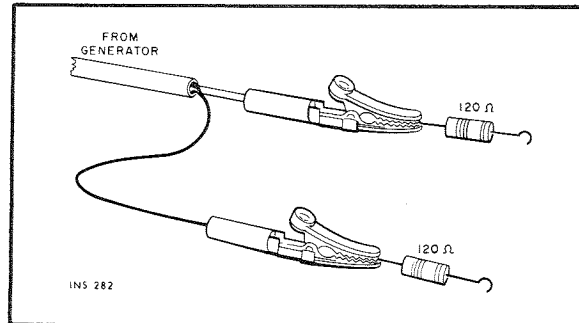

Figure 5. Connections To Provide 300-ohm Generator Output Impedance. Matching Resistors Reduce Generator Voltage By Half At Antenna Terminals.
- (1) Set TUNING dial pointer to zero (0) calibration mark on the logging scale. If the dial pointer is not centered on the 0 at the extreme end of the knob rotation, reposition the pointer assembly on the dial cord and cement the pointer in place to prevent slippage. Allow cement to thoroughly dry.
- (2) Connect an FM generator to the FM ANTenna terminals. Use a 120-ohm composition resistor in series with each lead from the generator (see Figure 5).
- (3) Connect a scope and an AC VTVM to either Left or Right RCDR OUT jack.
- (4) Set FM generator frequency and TUNING dial pointer to 90 MHz. Modulate generator with 400 Hz,  $\pm 75$  kHz deviation. Set generator level as low as possible.
- (5) Align (oscillator coil) L504 first, then (mixer coil) L503 and (RF L502 for maximum reading on AC VTVM and tuning meter, and maximum waveform amplitude and symmetry.
- (6) Set generator frequency and TUNING dial pointer to 106 MHz.
- (7) Align (oscillator trimmer) C512 first, then (mixer trimmer) C511 and (RF trimmer) C503 for maximum reading on AC VTVM and tuning meter, and maximum waveform amplitude and symmetry.
- (8) Repeat alignment several times until accurate dial calibration and maximum gain are obtained. Keep the generator output as low as possible during all adjustments.
(1) Connect an FM generator to the FM ANTenna terminals. Use a 120-ohm composition resistor in series with each lead from the generator (see Figure 5).
(2) Set generator frequency to same frequency as receiver. Set generator RF output level to full output (approximately 100,000  $\mu$ V) with audio modulation off.
(3) Adjust generator frequency for peak tuning meter reading.
(4) Adjust FM METER ADJ. pot. R328 (on AM/FM IF, MPX board) for tuning meter reading of 4.5.
(1) Connect RF output of multiplex generator to the FM ANTenna terminals. Use a 120-ohm composition resistor in series with each lead from RF output (see Figure 5). Set MPX generator for external modulation with 19 kHz pilot carrier,  $\pm 7.5$  kHz deviation (10% pilot, no audio). Tune receiver to RF frequency of MPX generator.
(2) Connect DC VTVM to Test Point 403 (pin 4G on AM/FM IF, MPX board).
(3) Adjust cores of Z401 and Z402 (on AM/FM IF, MPX board) for maximum reading on DC VTVM (2.5 to 4 VDC).
(4) Connect output of audio generator, set for 1 kHz, to the external modulation input of MPX generator and to external